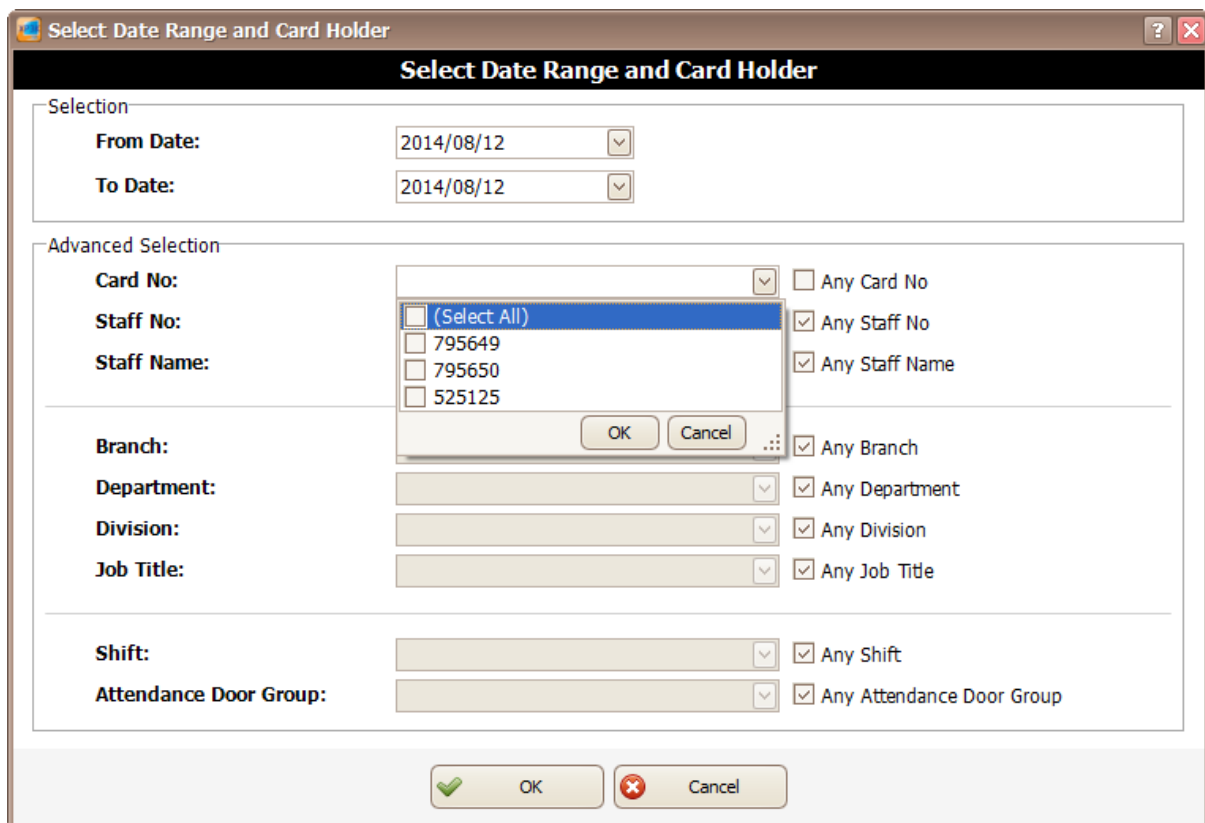

Figure 91 - Select Date Range and Card Holder
4. You can select From Date and To Date to view the daily attendance date that you want. To select for specific card no, staff or branch, you can use the Advanced Selection. Uncheck the checkbox at the right side and use the drop down list to search for the cards that you want (*Refer **Figure 91***). Click OK to continue.